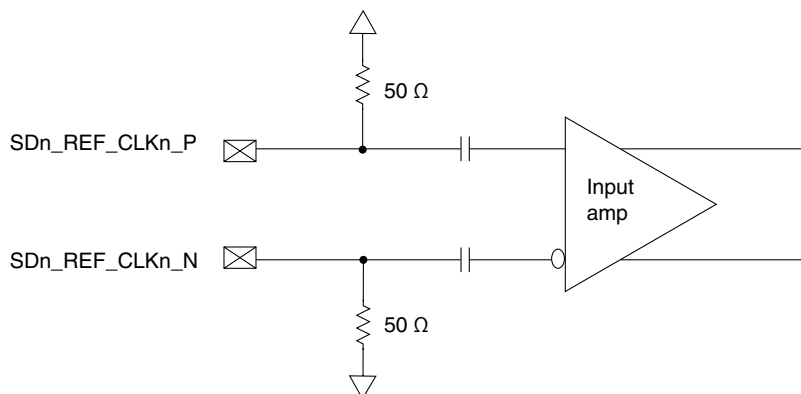

Figure 79. Receiver of SerDes reference clocks
- The $SDn_REF_CLKn_P$ and $SDn_REF_CLKn_N$ are internally AC-coupled differential inputs as shown in Figure 79. Each differential clock input ($SDn_REF_CLKn_P$ or $SDn_REF_CLKn_N$) has on-chip 50- Ω termination to $SGNDn$ followed by on-chip AC-coupling.
- For an external DC-coupled connection, as described in Figure 79, the maximum average current requirements set the requirement for average voltage (common mode voltage) as between 100 mV and 400 mV.